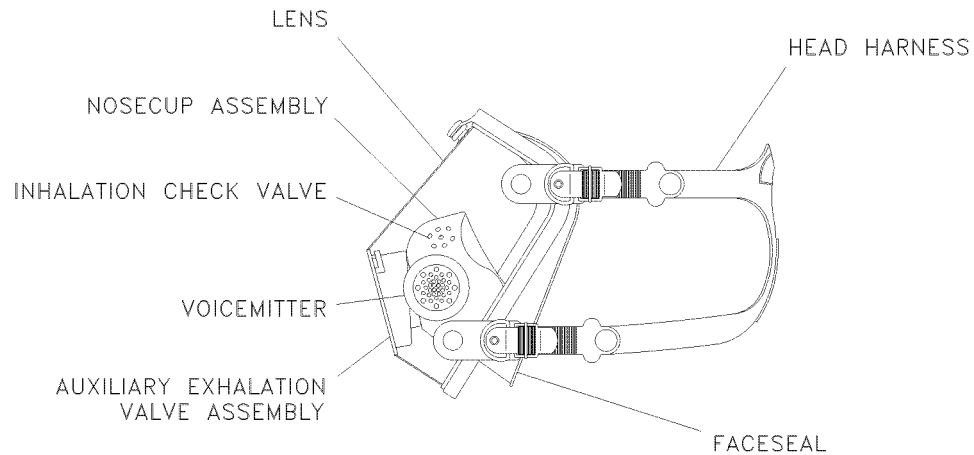

Figure 077-3-12. AV-2000® Facepiece Components
- b. AV-2000® Facepiece. AV-2000® facepiece (Figure 077-3-12) components are a head harness, lens, nosecup assembly, two inhalation check valves, two voicemitters, and an auxiliary exhalation valve assembly.